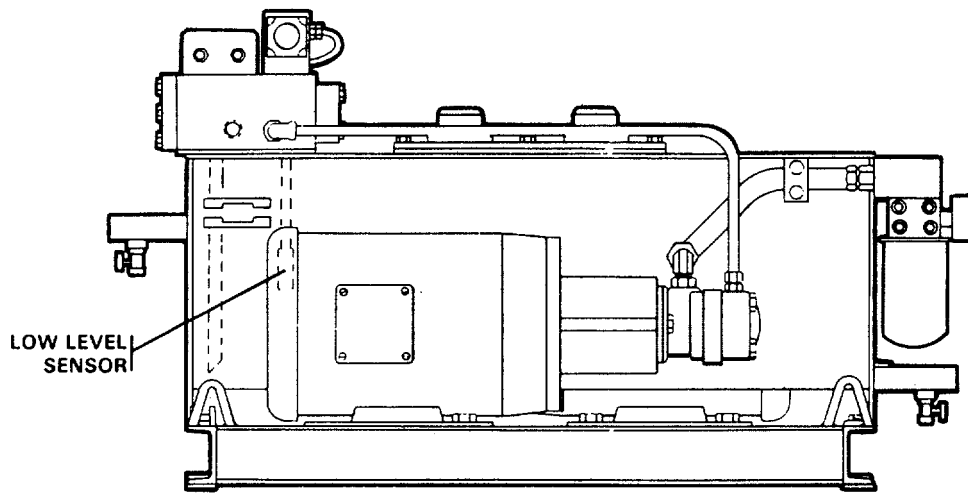

Figure 1-8. Reservoir Low Level Alarm Sensor.
■ (2) Level Sensor (FIGURES 1-8 and 1-10). In each section of the pumpset reservoir there is a probe containing a floating magnet and a reed switch. When the oil level drops below the set point of the probe, the magnet trips the reed switch and energizes an alarm on the control panel in the pilothouse. Mountings and electrical connections for each probe are in each uniblock manifold. The alarm sounds when only 15 gallons are left in the reservoir.
(3) Reservoir Inlet Line Strainer. The 100-wire mesh strainer, rated at a 20 gpm flow, traps contaminated particles over .010 inch in diameter. One unit is installed in each reservoir on the suction line to the hydraulic pump. The strainer element can be removed for periodic cleaning or be replaced when it is no longer serviceable.